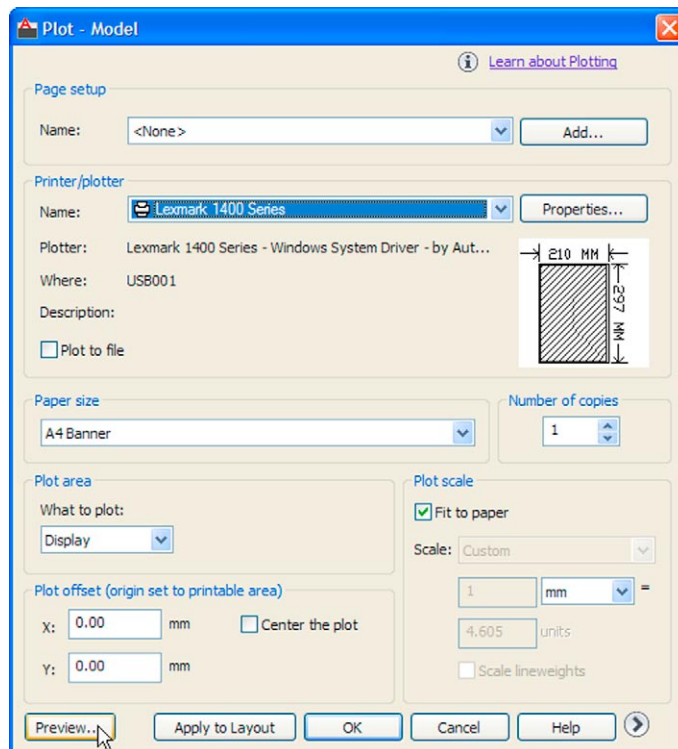

Fig. 15.35 The **Plot** dialog
2. The **Plot** dialog appears (Fig. 15.35). Set the **Printer/Plotter** to a printer or plotter currently attached to the computer and the **Paper Size** to a paper size to which the printer/plotter is set.